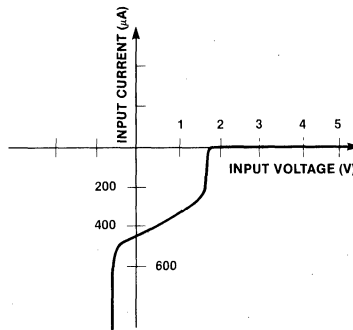
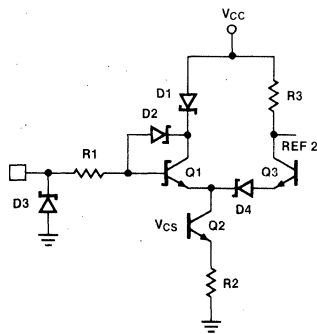
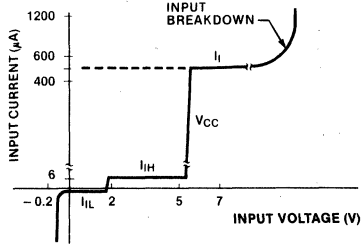

Figure 2. Static Diode Input Function of Voltage vs Current
Figure 7a. NPN Input
Figure 8. NPN Input Characteristics (not to scale)
The static diode input function of voltage versus current is shown in Figure 2. If the pad voltage is negative, most of the relatively high, negative current flows through the clamp Schottky D2. At zero volts the current flows from V_{CC} through R1 and D1 to the pad. Switching from a logic LOW level to a logic HIGH level occurs when the input pad voltage rises high enough to force the current from the D1 path to the Q3-Q2-Q1 path. This happens when the base voltage of transistor Q3 is at three base-emitter drops ($3V_{BE}$), and the pad is at $2V_{BE}$, which is the standard FAST threshold switching voltage. At this voltage the input current is very small, just the leakage currents of diodes D1, D3 and clamp diode D2. The current remains at this small, positive value until breakdown voltage is reached.
The current of Figure 2 is scaled for the case where the pad is required to pull down a single 10K-ohm resistor R1 ($20\mu A$ maximum in the HIGH state and $0.6mA$ maximum in the LOW state), which is defined as a standard FAST Unit Load (UL). For some parts, pad current can exceed a UL, especially in the logic LOW state. This will happen if the pad must sink the current from more than one R1 resistor or if the value of R1 is less than 10K ohms, which will be the case if the capacitance at the base of the transistor Q3 is too large for the required switching speed. In this event, the actual number of ULs is listed for each input in the specification sheet for the part. Note that a UL as defined here is less than the normally defined Schottky TTL Unit Load; the correlation is one Schottky Unit Load = 1.67 ULs. This is an important point to remember for fan-in and fan-out calculations in systems that mix FAST with other TTL families.
The NPN input is shown with two variations in Figures 7a and 7b. It has limited use in standard TTL circuits, and is used in selected FAST devices, especially where its superior high-impedance input characteristics are useful. A typical plot of static input current versus input voltage is shown in Figure 8. There are some significant differences between this function and that of the diffusion diode input shown in Figure 2, the most important being the much lower input current in the region from zero volts to threshold, and the controlled increase of input current above V_{CC} .
decreases by exactly this amount, since Q2 is a constant current source. As the voltage continues to rise, D1 becomes reverse biased and prevents high currents flowing from the pad into V_{CC} . All the Q2 current flows into the pad through the R1-D2-Q1-Q2-R2 to ground. As stated before, this current is typically small, in the range of 0.1mA to 1.0mA, and nearly independent of pad voltage, as shown by the I_I plateau in Figure 8. It flows in the correct direction to provide a desirable positive overshoot clamp. This is an advantage over the diode input which does not clamp positive overshoots.
For the incoming inspection testing case where V_{CC} and ground are connected, the response is shown in Figure 8. The current remains on the Q2-limited plateau until the pad voltage is high enough to cause non-destructive collector-emitter reach-through of Q2. At this point, input current increases as the pad voltage rises, and R1 functions to limit this current and prevent damage to Q2.
The $2V_{BE}$ input threshold is set by the forward drops of Q1, D4, Q4 and Q3. The current-mode logic interface is shown in Figure 7a. The output voltage is the drop across R3, and is referenced to V_{CC} (or some on-chip regulated voltage lower than V_{CC}) as is required for current-mode logic. For this case, voltage reference REF2 is normally fixed at $2V_{BE} + 1$ Schottky drop to provide a pad threshold voltage of $2V_{BE}$. In fact, REF2 can be tailored to set the switching threshold voltage to any desirable level; it can be set to something other than an integral number of base emitter drops, or it can be designed to reduce the sometimes undesirable temperature variations of input threshold.